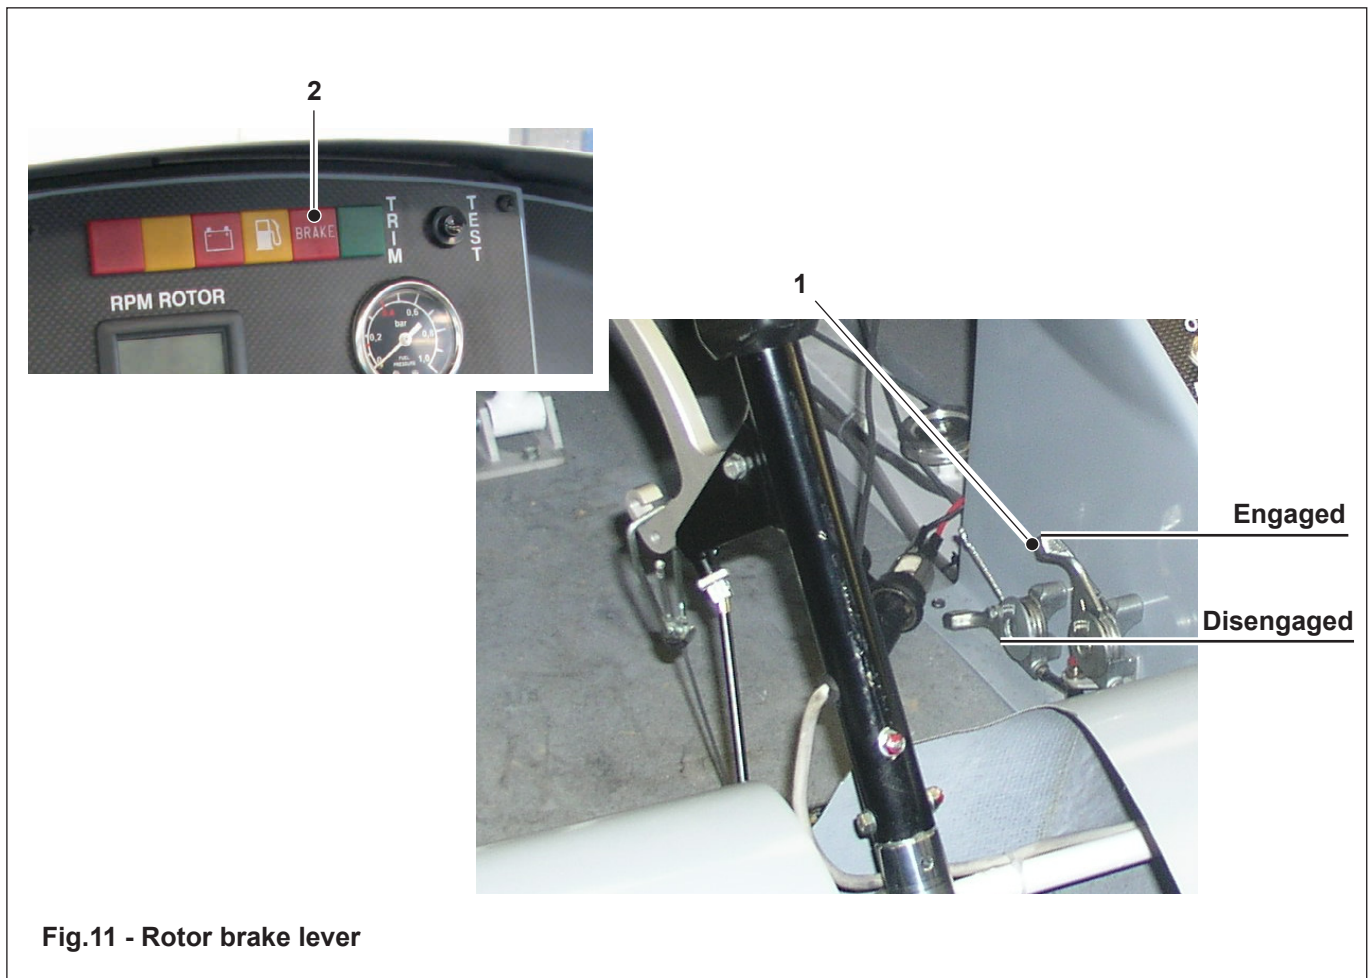

Fig.11 - Rotor brake lever
2.6.e Rotor brake lever (Fig. 11)